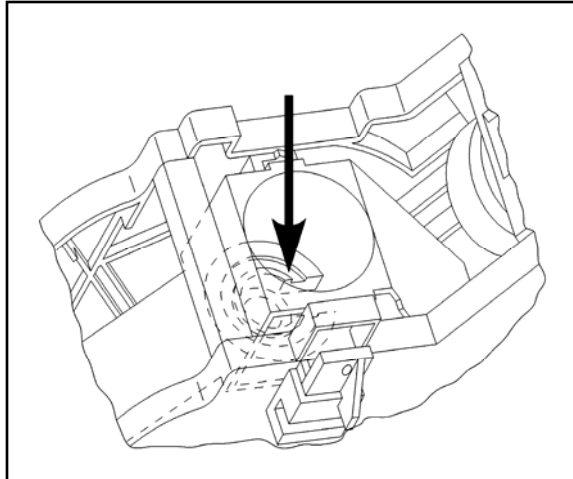

Figure 5-30: Brewing Unit Chamber Inside the Brew Unit Assembly
6. Clean the brewing chamber (Figure 5-30), ram and bottom filter by hand with warm water without detergent, then dry.